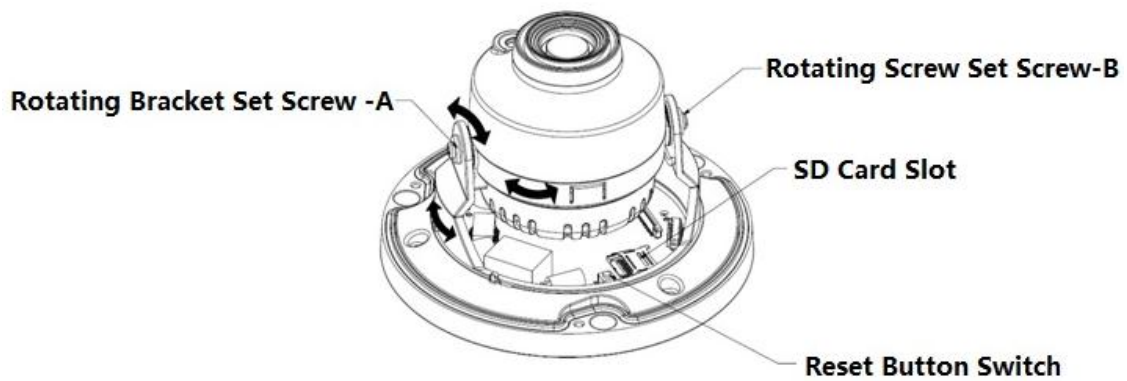

Figure 2-2
- Long press the “Reset” button shown in Figure 2-2 for 10 seconds when the device is power on if the device needs to be restored to factory setting.
- If the device needs to use WPS function, short press “Reset” button shown in Figure 2-2 for 1~2 seconds when the device is power on, press the WPS button of the router, generally the device can be connected to the corresponding router within 1 minute (only supported by some models).